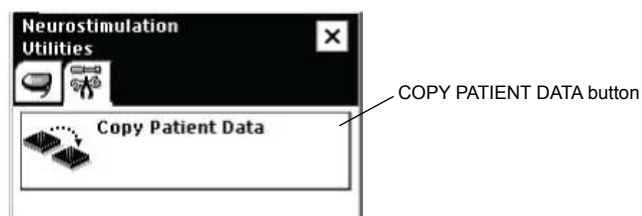

Figure 13. UTILITIES tab.
3. Select the COPY PATIENT DATA button (Figure 13).